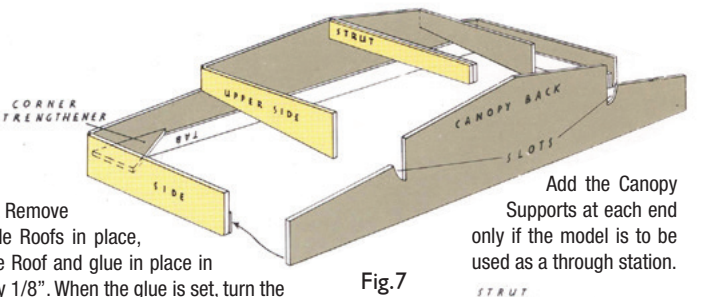

Fig. 7
- 6 Remove the Concourse Canopy Front, Sides and Upper Sides with its Tabs formed from the white margin, as one piece. Bend the Tabs right back and glue down for double thickness. Bend back the Sides and Upper Sides at right angles and retain the shape by inserting the Corner Strengtheners resting on the Tab edges (Fig. 7). Remove the Canopy Back and glue it into the recesses at each end of the sides with the Upper Sides resting in their corresponding slots. The Upper Sides must not project beyond the Back. Remove the Canopy Side and Middle Roofs, add the glazing and glue the Side Roofs in place, overlapping the front and sides and flush at the back. Bend the Middle Roof and glue in place in line with the Side Roofs at the front but overhanging the Canopy Back by 1/8". When the glue is set, turn the Canopy upside down and insert the Strut, bent and glued double, along the ridge and pressed against the glazing. Glue the completed canopy in place positioned by seating it on the two pressed out portions of wall where shown.